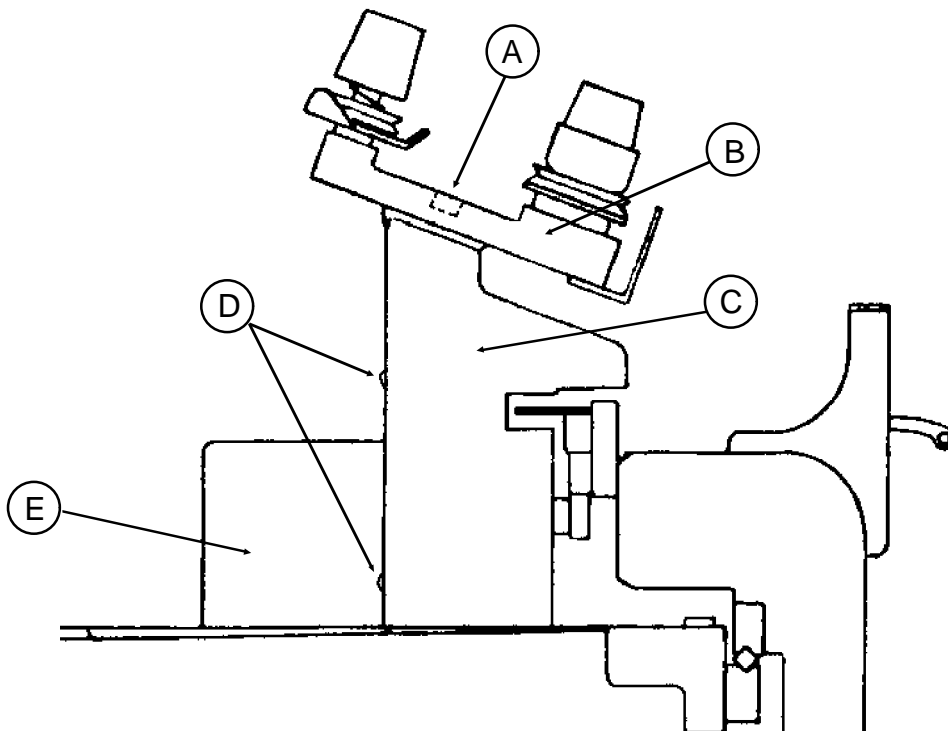

Figure 1
3. Remove the two Retaining Screws (Figure 1-A) holding the Tensioner Assembly (Figure 1-B) to the Color Change Tower (Figure 1-C).
5. Remove the four Retaining Screws (Figure 1-D) holding the Color Change Motor Cover (Figure 1-E) to the Color Change Tower and remove the Cover.